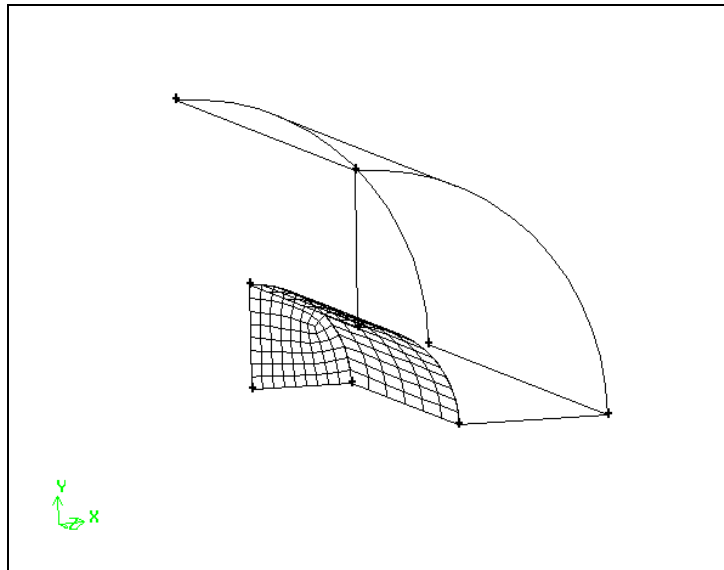

Figure 4-29: Mesh on curved face along the entrance to the burner
*The face will be meshed as shown in Figure 4-29.*